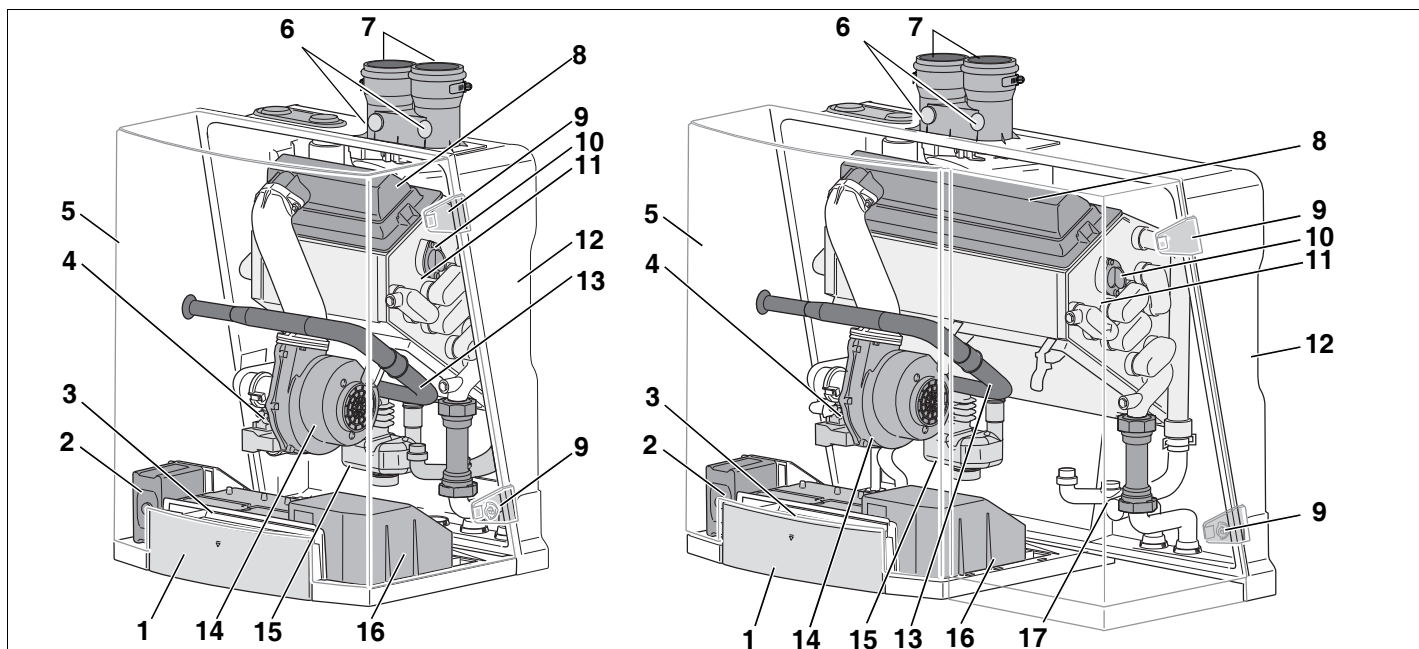

fig. 1 Logamax plus GB142-24/30 (left) and GB142-45/60 (right)
- And periodically inspect the burner flames (see page 8, fig. 1, pos. 10).